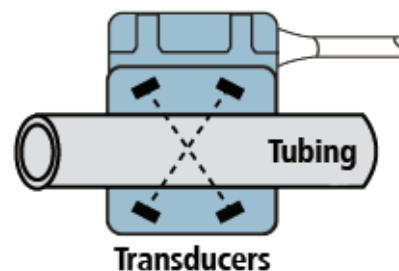

Fig. 1: Sterile Tubing Flowsensor
**Note:** In some applications, the inner diameter of the tube is more critical than the outer diameter. Since tubing comes in several wall thicknesses, it is important to use all dimensions ( $ID + 2 \times \text{Wall} = OD$ ) to determine the most appropriate Sensor size. In Fig. 1, both tubes have the same ID, but the wall thickness of Tube B is greater than Tube A, so that the OD of Tube B is bigger and uses a larger Sensor. In some cases, the larger Sensor size will have a higher flow scale and a less sensitive measurement than a smaller Sensor size (see specifications).